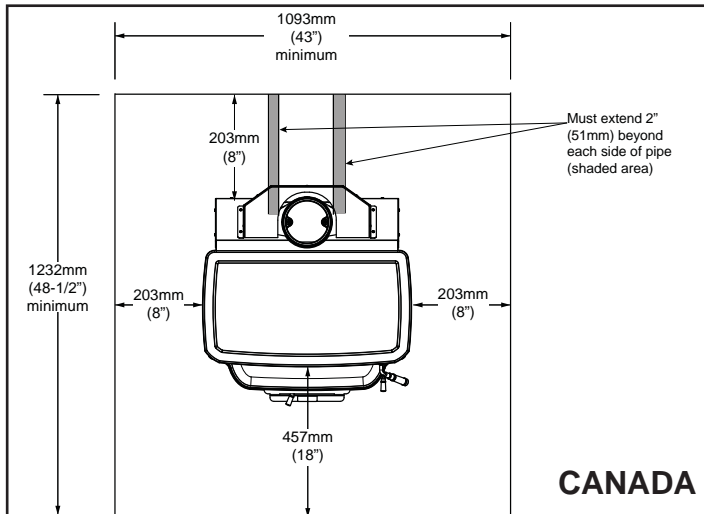

Figure 14.2
In Canada, similar floor protection must be provided 18 inches (457mm) in front and 8 inches (203mm) from the sides and rear of the appliance. **Figure 14.2**
***EXCEPTION:** Non-combustible floor protections must extend beneath the flue pipe when installed with horizontal venting and extend 2 inches (51mm) beyond each side. **See Figure 14.2**